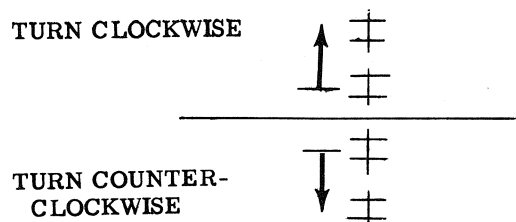

Figure 22. Vertical Image Alignment
- 3) Adjust the vertical position of the target images by turning the Phillips head screw in the direction necessary (figure 22).